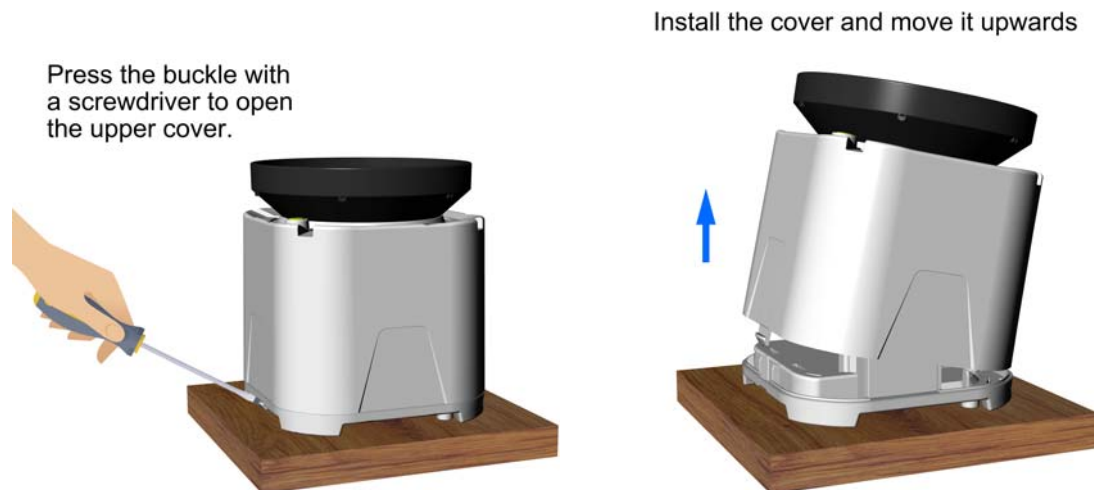

Figure 3
1. Separate lower casing base, squeeze tabs to open, arrow direction as show in Figure 3.